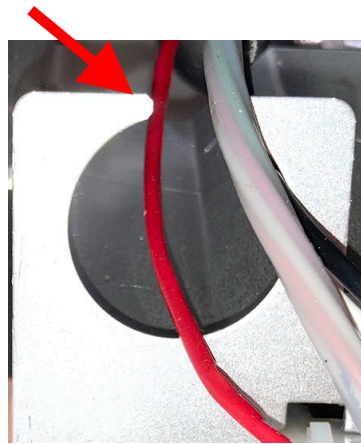

Figure 22
22. Insert the 9-pin connector end of the new harness through the slot, where the split Heyco bushing was removed (see Figure 22).